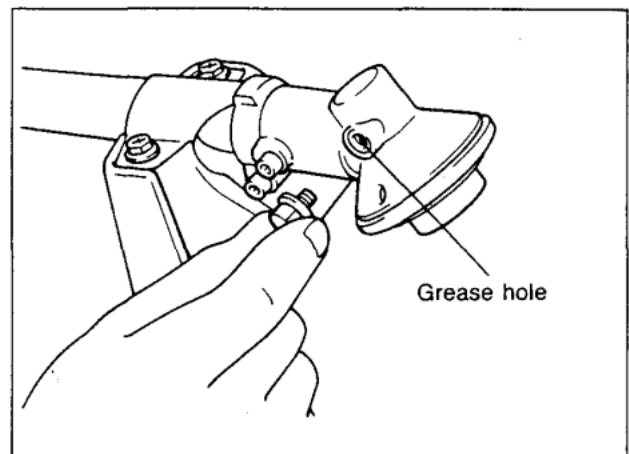

Fig. 15
5. Apply grease (SHELL ALVANIA No. 3 or equivalent) to the gear case through the grease hole every 30 hours (Fig. 15).